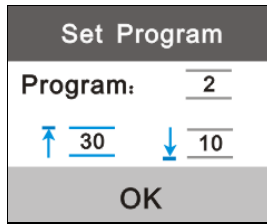

Fig 3.5 Upper Limit Setting
- d. Move the cursor to the upper limit setting box (as shown in Figure 3.5), using <  **Up** > key or <  **Down** > key to set the value (range: 1~9999) and press <  **OK** > for confirmation;